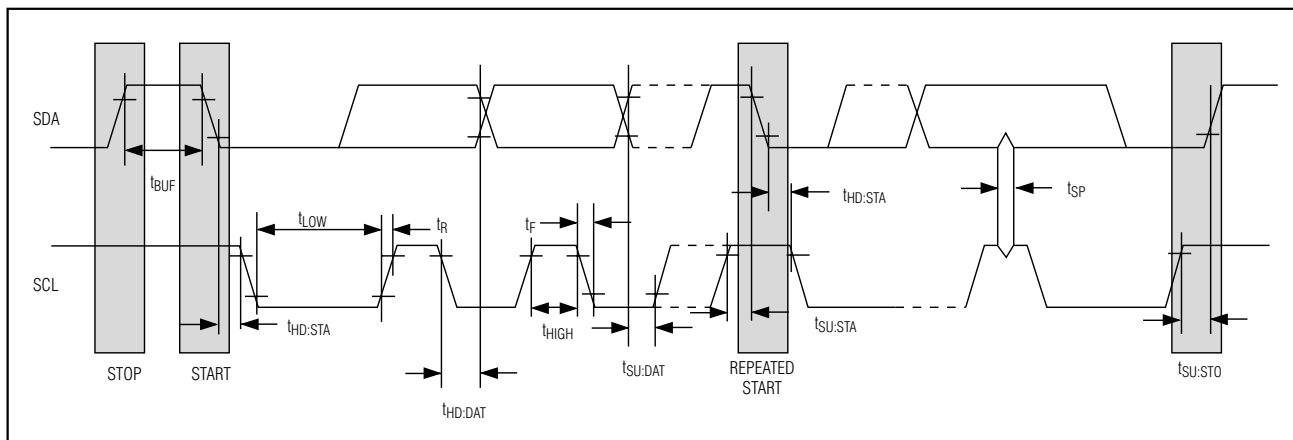

Figure 19. I²C AC Characteristics
**Bit Write:** Transitions of SDA must occur during the low state of SCL. The data on SDA must remain valid and unchanged during the entire high pulse of SCL plus the setup and hold time requirements (Figure 19). Data is shifted into the device during the rising edge of the SCL.
**Bit Read:** At the end a write operation, the master must release the SDA bus line for the proper amount of setup time (Figure 19) before the next rising edge of SCL during a bit read. The device shifts out each bit of data on SDA at the falling edge of the previous SCL pulse and the data bit is valid at the rising edge of the current SCL pulse. Remember that the master generates all SCL clock pulses, including when it is reading bits from the slave.
during the 9th bit. Timing (Figure 19) for the ACK and NACK is identical to all other bit writes. An ACK is the acknowledgment that the device is properly receiving data. A NACK is used to terminate a read sequence or as an indication that the device is not receiving data.